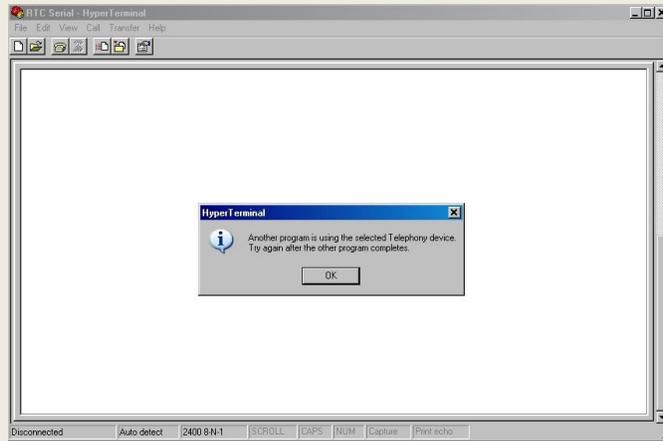

Fig. 12
6. If the COM port is already used by some device you will see an error message (Fig. 12). This could be an RTC program using it, or any other program in the computer.